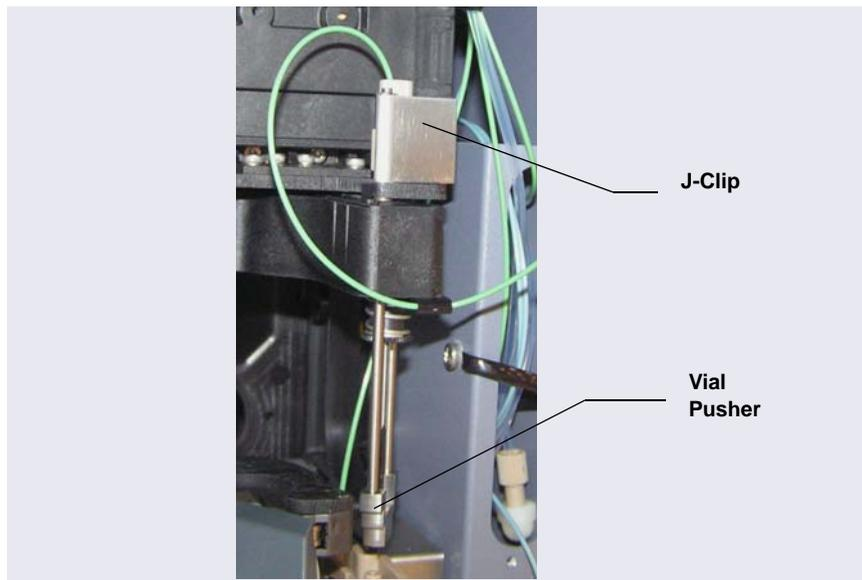

Figure 5-5. J-Clip Installed on Vial Pusher
- a. Lift up the vial pusher and attach the J-clip to the front most metal rod of the vial pusher (see Figure 5-5). During the alignment procedure,
1. Verify that the J-clip is installed on the vial pusher (see Figure 5-5).